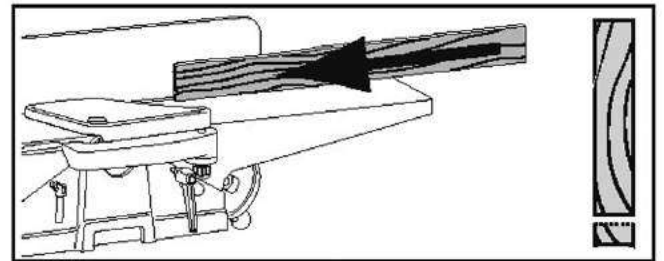

Figure 43. Edge jointing on a jointer.
1. Edge joint concave edge of 2x4 flat on a jointer, as shown in **Figure 43**.